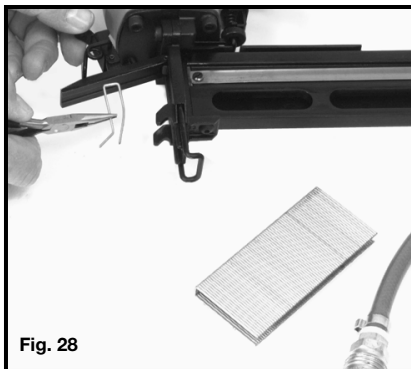

Fig. 28
3. Remove the jammed fastener (see Fig. 28).